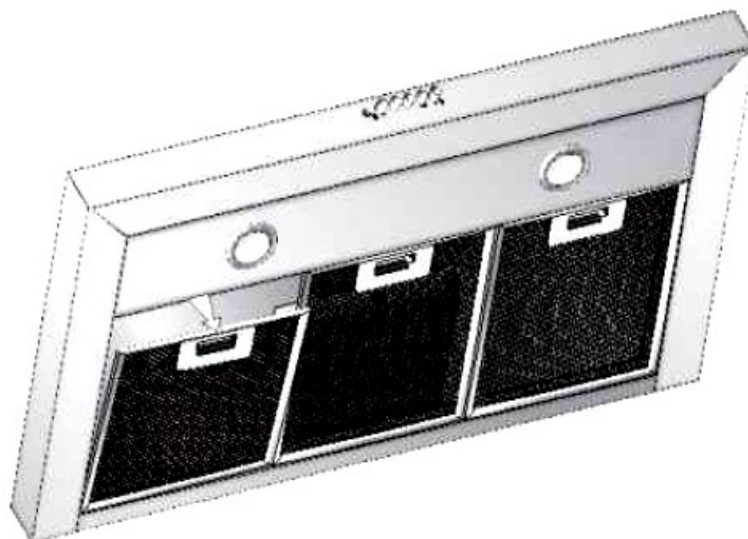

Fig. 1
- Open by means of the handle (Fig. 1).